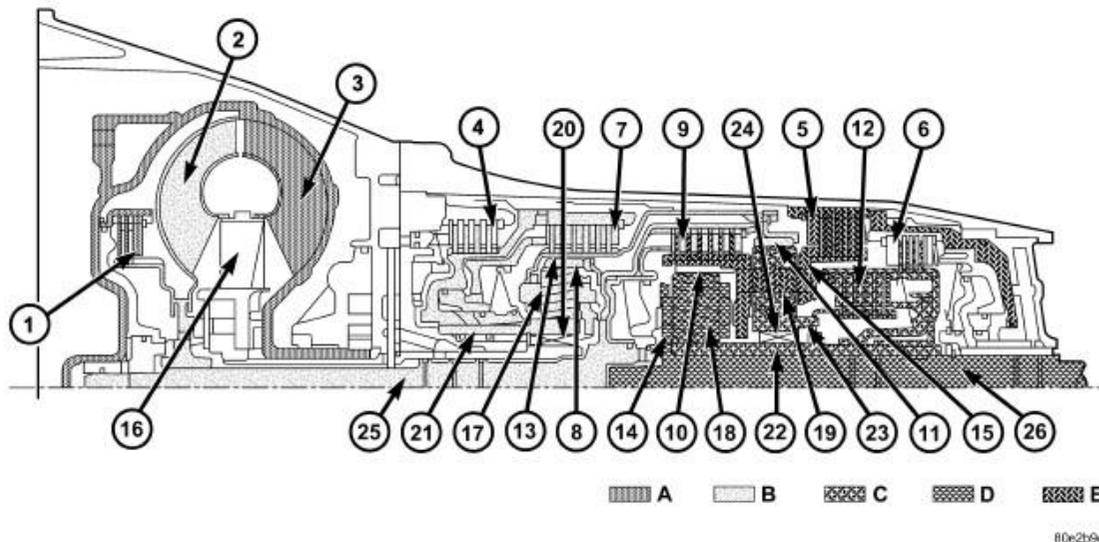

Fig. 15: Reverse Gear Powerflow - Limp In Or 4WD Low Range (2 Of 2)
Torque from the torque converter is increased via the input shaft (25) and all three planetary gearsets and transferred with reversed direction of rotation to the output shaft (26). Refer to Fig. 14 and Fig. 15.